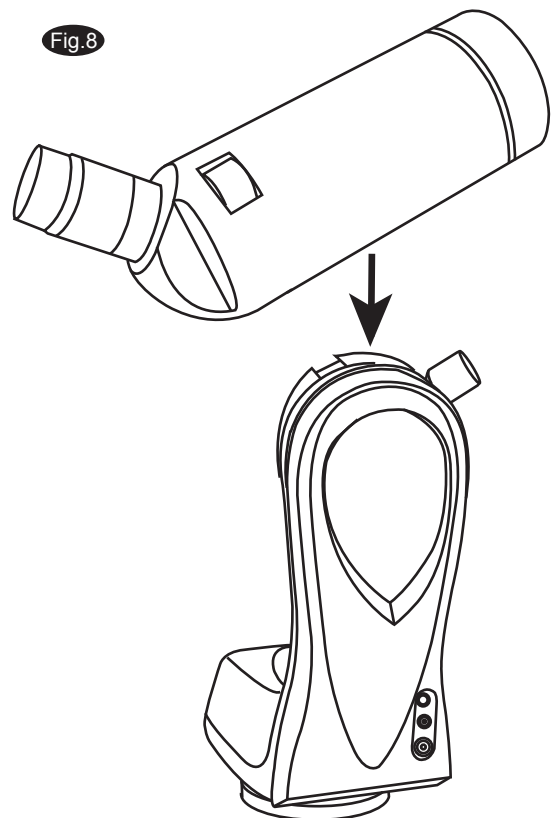

Fig.8
1. If you are using the telescope for tracking astronomical objects, attach the optical tube to the Mounting Platform so that the Fork Arm is located on the right hand side (Fig.8). If the telescope is installed incorrectly you will not be able to use the latitude scale on the top of the Fork Arm. Thread the 1/4x20 Mounting Screw into the 1/4x20 tripod adapter of the optical tube and make sure it is tight. Do not overtighten the screw.